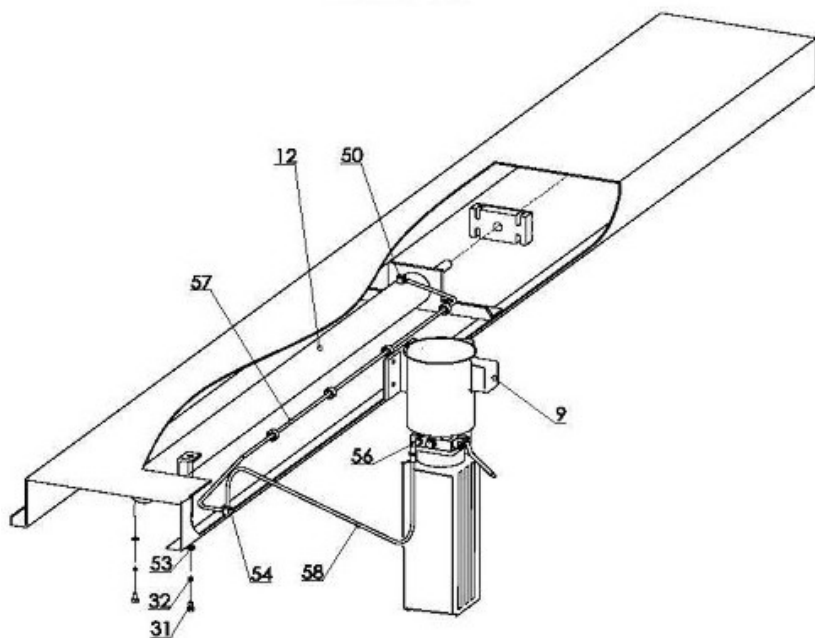

Figure 2-10. Hydraulic Lines Installation
2. Install the hydraulic lines using the following parts from the parts listing. Refer to figure 2-10. The power unit hydraulic pump has a plastic cap protecting the hose fitting. Remove and discard the cap